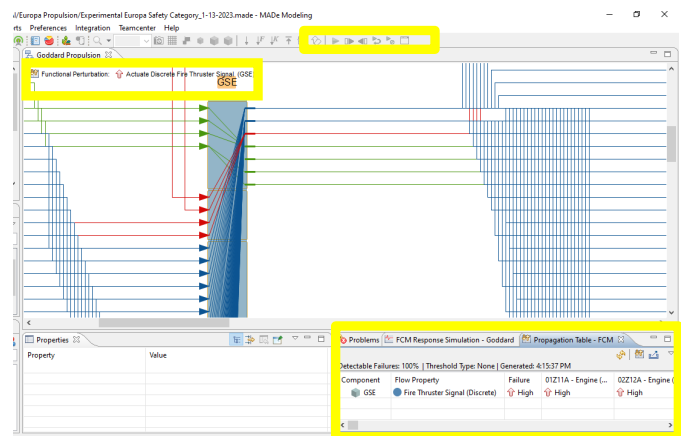

Figure B64: Functional Block Diagram Ready for Simulation
- 3) Execute the simulation by left-clicking on a *functional block diagram* space and then clicking the green “Play” button desired (▶ for Step to Equilibrium (run to conclusion), ▶▶ Step forward one Step, or ▶◀ Step Backward one Step), located just above the modeling space in the MADE tool bar (Figure B64).